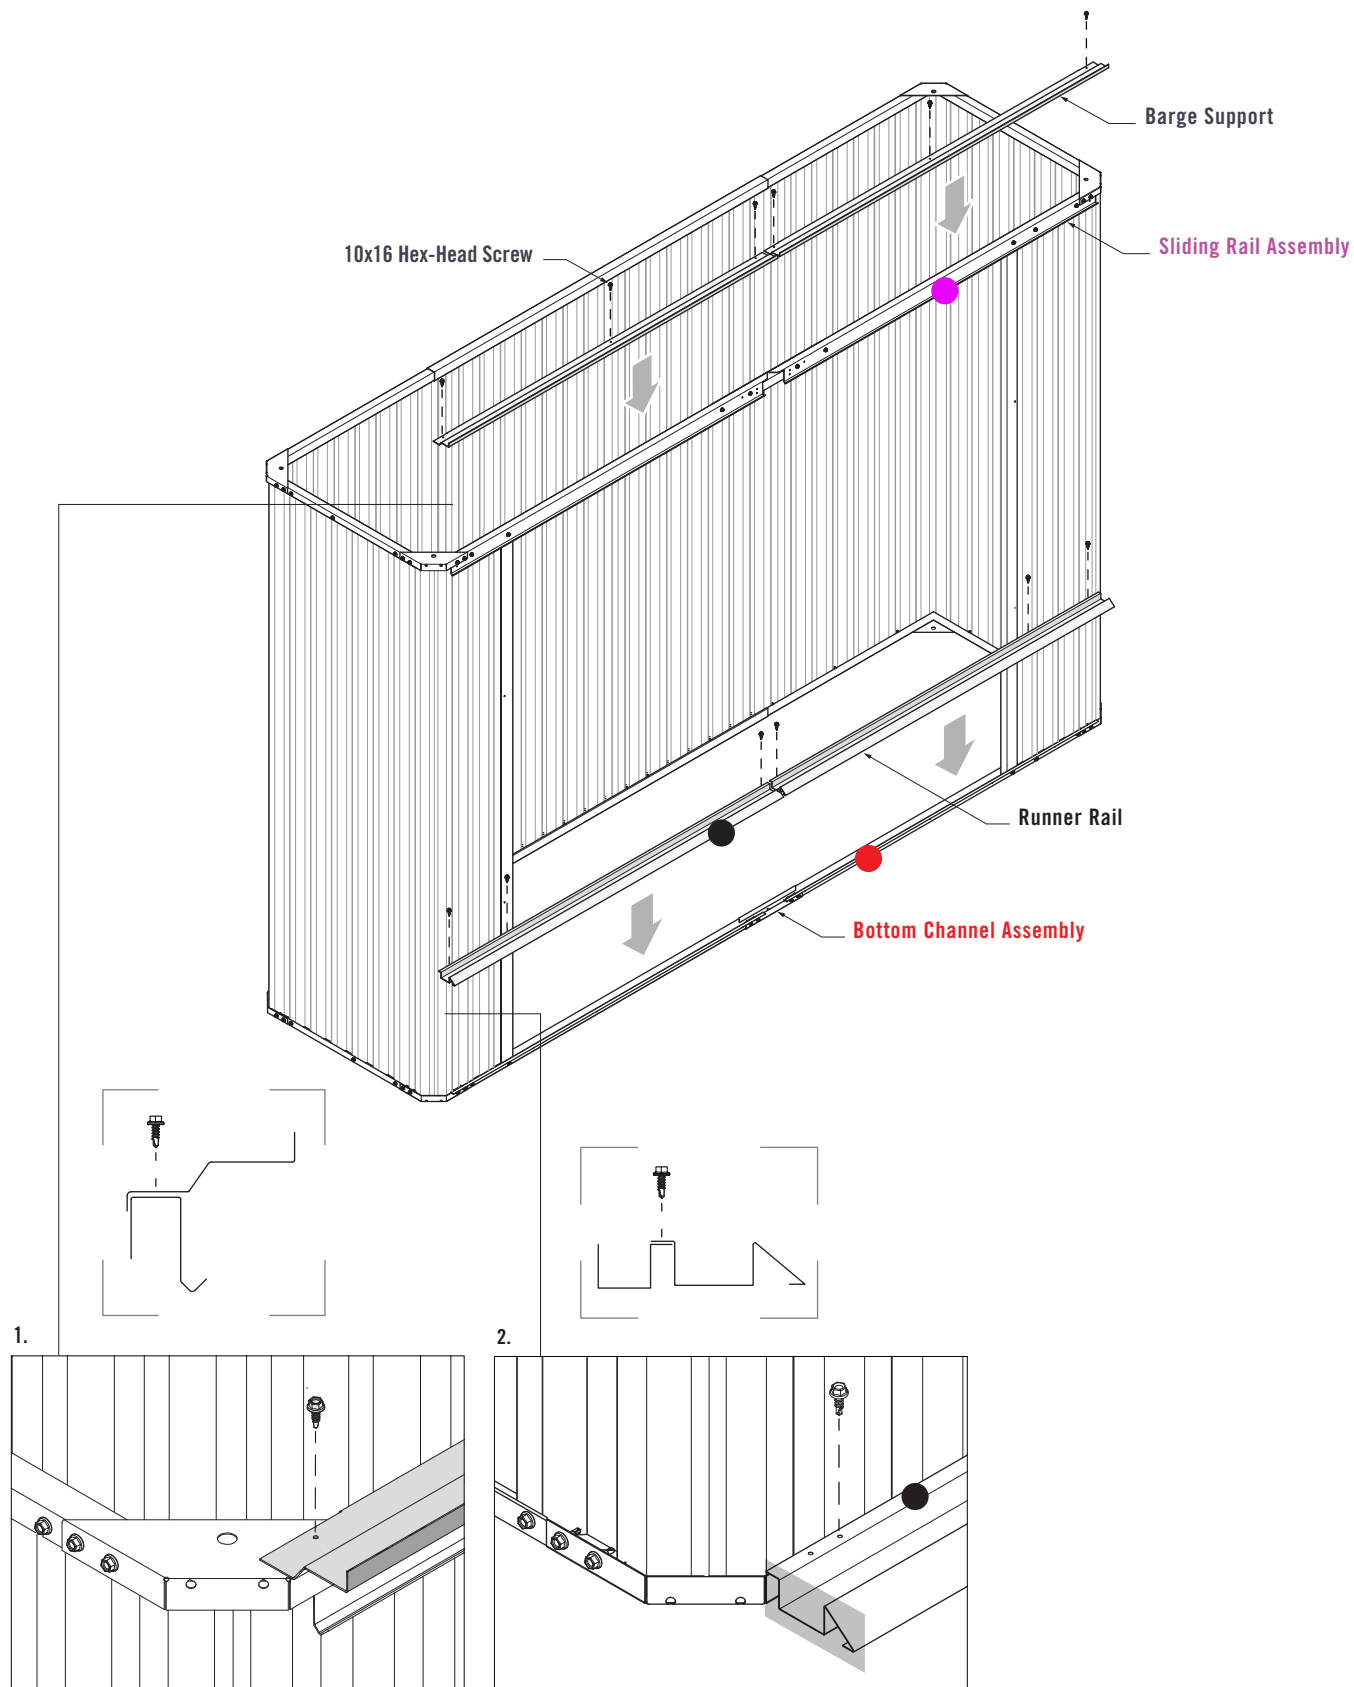

FIGURE 8.2
1. Fit the two Barge Supports over the **Sliding Rail Assembly**. Fasten six 10x16 Hex-Head Screws through the pilot holes of the Barge Supports and into the **Sliding Rail Assembly** (Figure 8.2).
2. Fit the two Runner Rails over the **Bottom Channel Assembly**. Fasten six 10x16 Hex-Head Screws through the pilot holes of both Runner Rails and into the **Bottom Channel Assembly** (Figure 8.2).